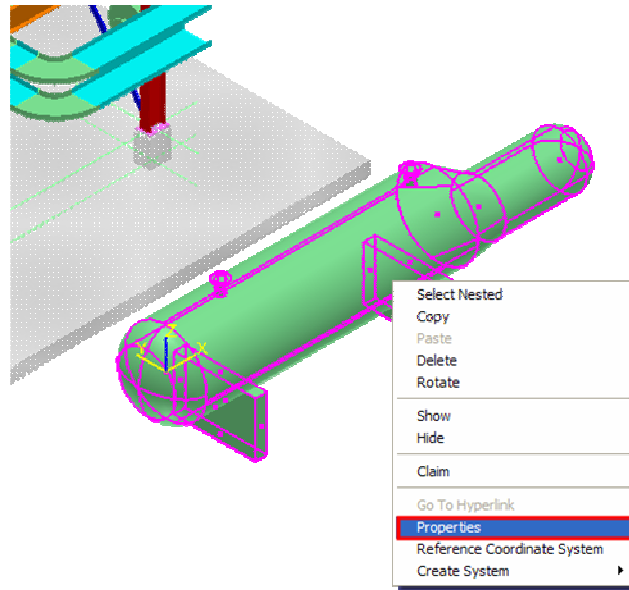

Figure 19: Equipment Properties Command
3. Change tasks to the **Equipment and Furnishings** task and right-click the equipment named **E-102**, and select **Properties** from the menu, as shown in Figure 19.